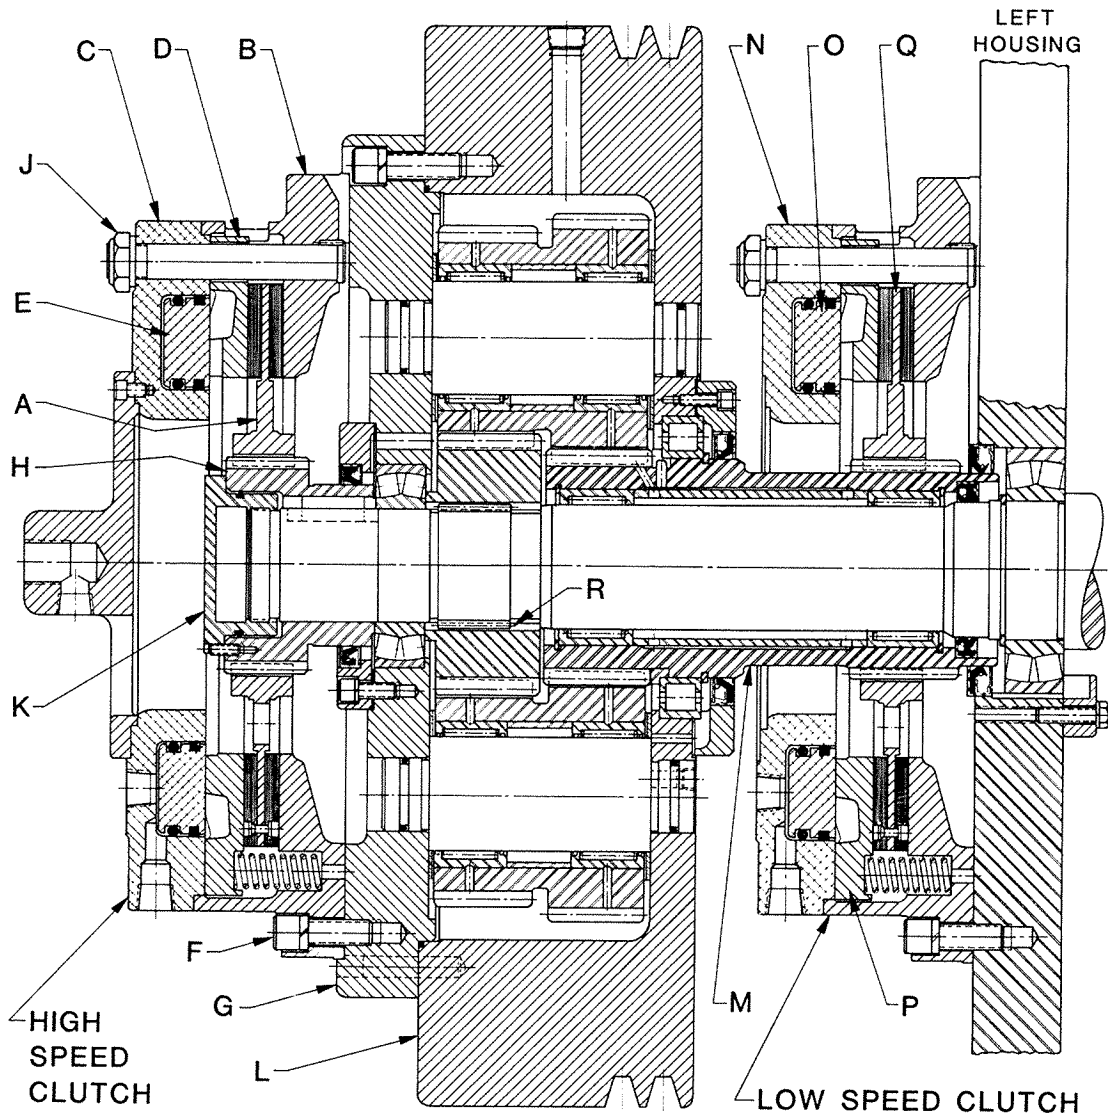

FIGURE 100
REPLACING HIGH SPEED CLUTCH DISC - 4-5 SERIES AUTOMATIC CYCLE (See Figure 100)
REPLACING LOW SPEED CLUTCH DISC - 4-5 SERIES AUTOMATIC CYCLE (See Figure 100)
17. Lift flywheel assembly "L" into position and slide sleeve onto flywheel shaft. Be careful not to damage needle bearings on shoulders of flywheel shaft. Move sleeve toward clutch disc "Q" to engage splines. The clutch disc can be positioned with a tool (not hands) through the openings in clutch housing. It may be necessary to turn off the air pressure. Push flywheel toward housing of machine and line-up splines on flywheel shaft and gear "R". Continue pushing flywheel until it is in approximate position shown in Figure 100. Remove the lifting device.